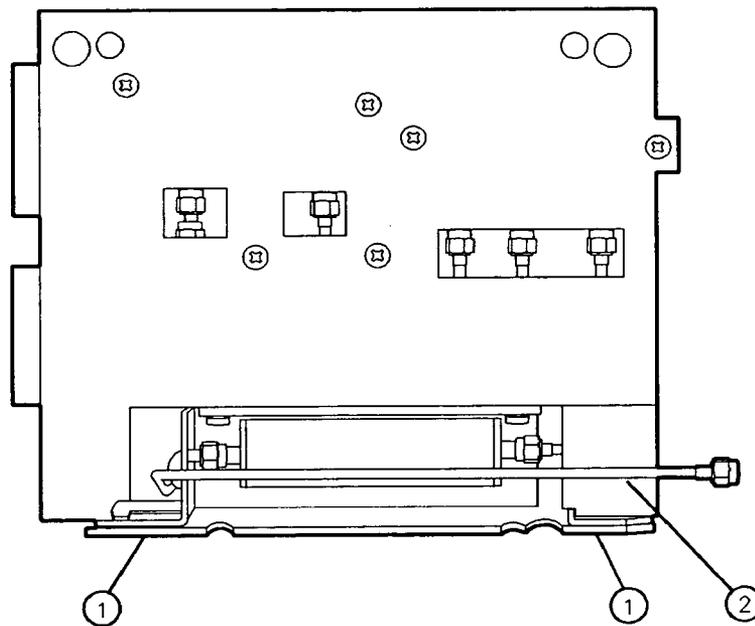

Figure 3-30. Screws Securing Bottoms of Assemblies
10. Secure the bottoms (1) of the TG and RF Assemblies using two screws. See Figure 3-30.
11. Install the semirigid RF INPUT cable W10 (2) to the Front-End assembly as shown in Figure 3-30.